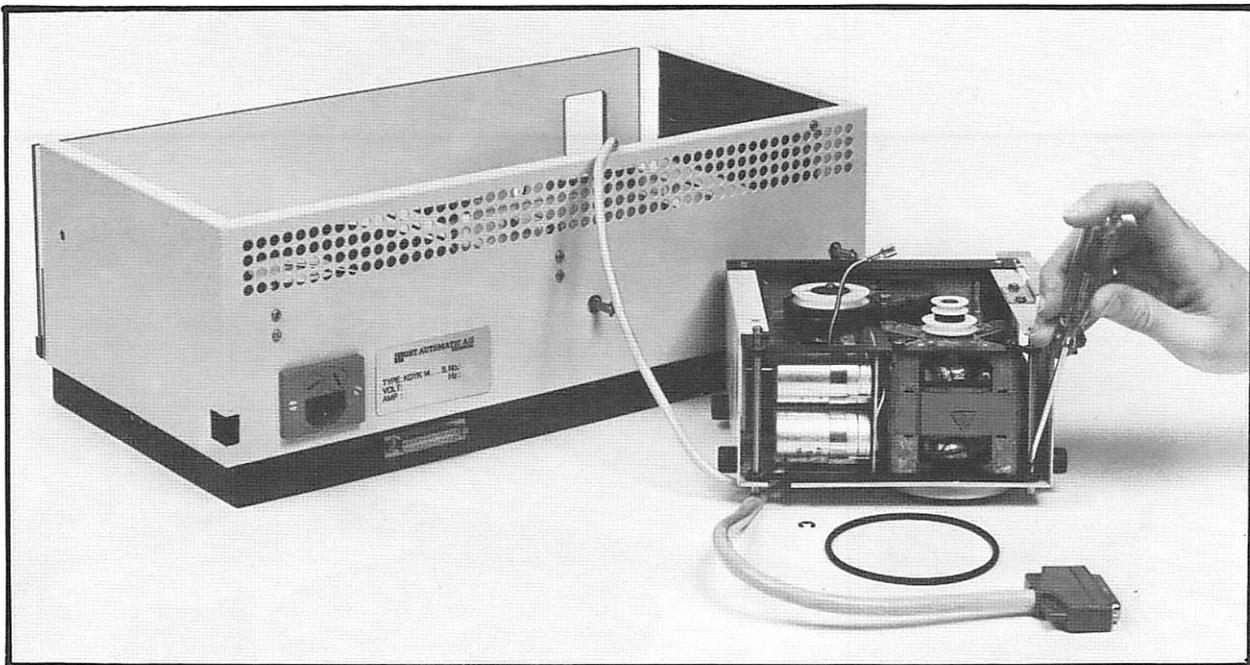

Fig. 6.33 Removing Motor From Punch Unit
- c) Remove all the circlips from the securing rods. See Fig. 6.33.